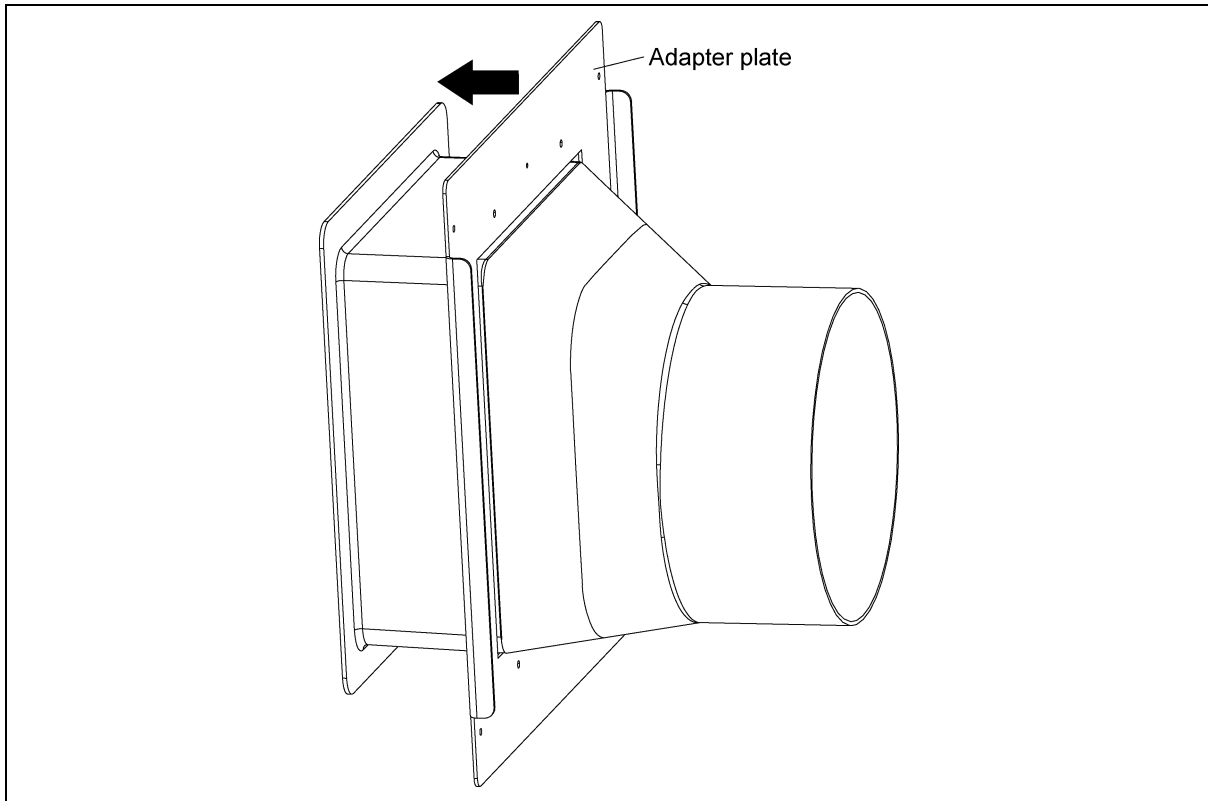

Figure 2C
Step 3: Slide the adapter over the fan housing. (See Figure 2C.)